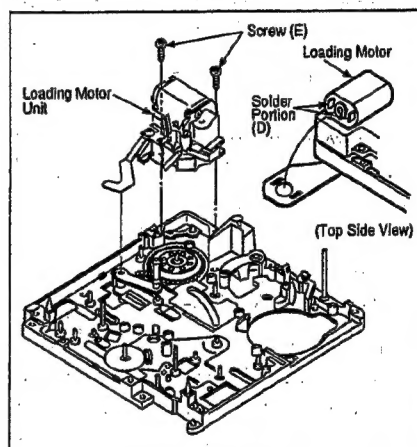

Fig. M5
| 3. Loading Motor Unit | Fig. M5 | Unsolder the soldered portion (D).